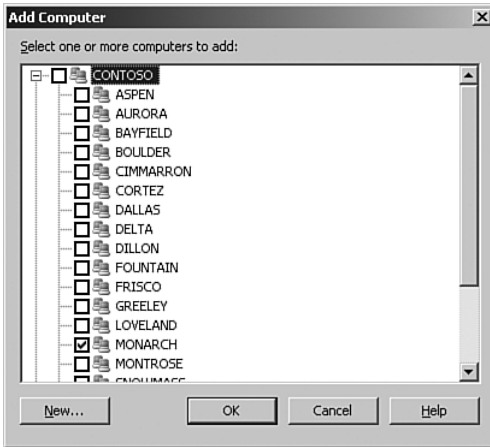

FIGURE 20.19 Add computer to computer group.
4. At the Add Computer screen, add the computer that will execute the PingPack script. The designated computer needs to have the MOM agent installed—in our example we designate the Monarch server as shown in Figure 20.19.